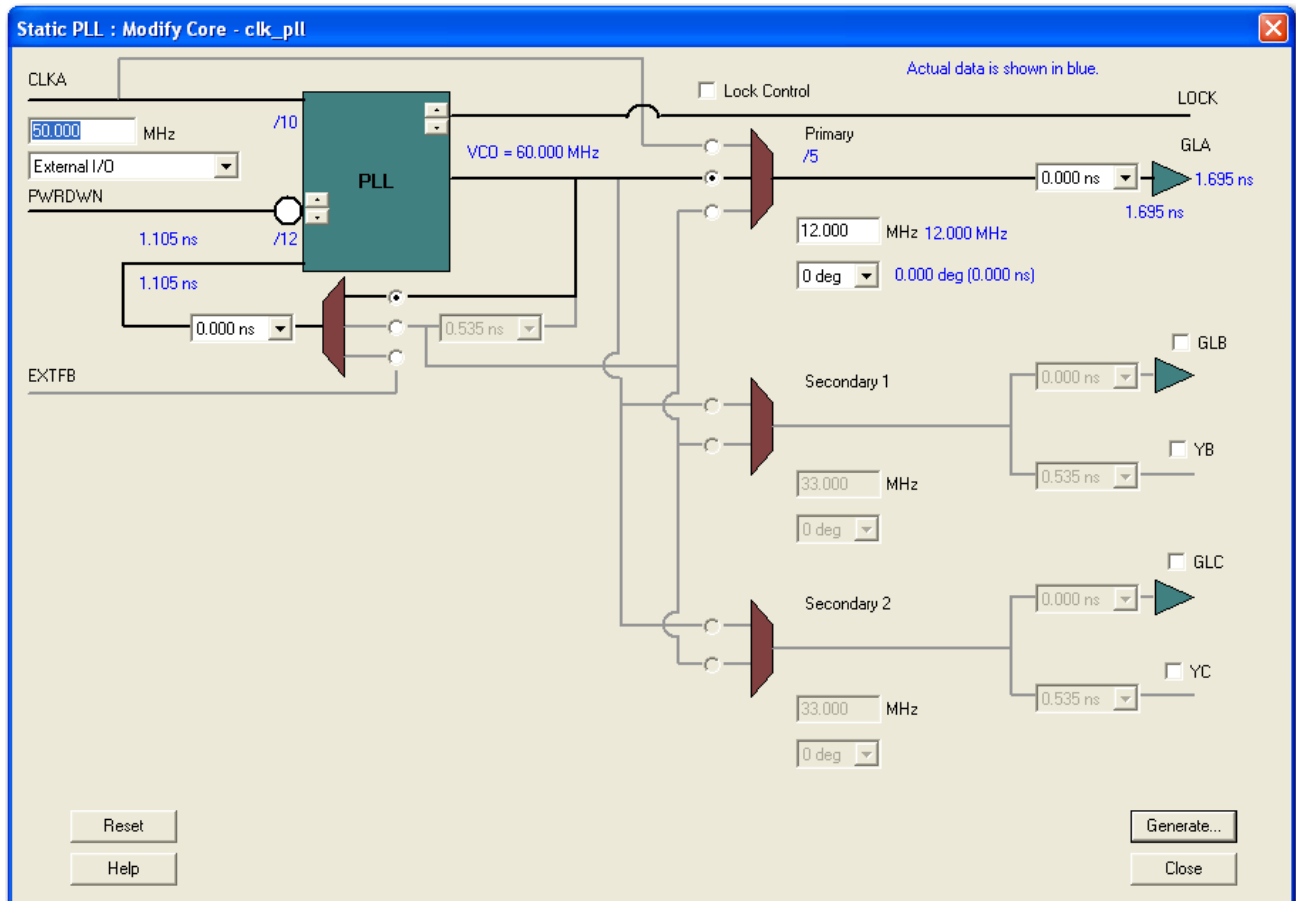

Figure 2-22 · PLL Configuration
7. From the Libero IDE catalog, expand Clock & Management. Locate and double-click on **PLL – static**. The Static PLL box will open (Figure 2-22 on page 39).